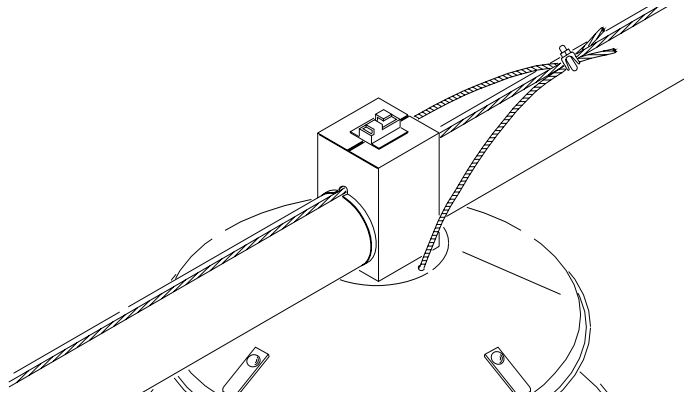

Figure 46. Cable Assembly Installation
8. Thread the cable assemblies through the holes on each side of the pan shield from the underside. Then clamp to the master cable with a cable clamp, **see figure 46**.